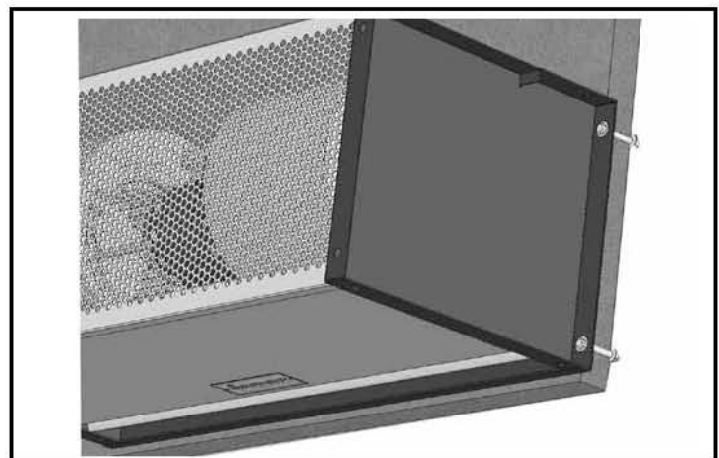

FIGURE 1 - Wall Mounting
B. The IDC12/IDC14 Series end plates are equipped with $\frac{1}{2}$ " holes for wall mounting. The unit may be attached to the wall using, at minimum, $\frac{3}{8}$ " bolts through the holes on the back of the end plate. **See Figure 1.** Or, the unit may be attached using an optional wall mounting bracket or a combination of extension and wall mounting brackets (Available call us) attached to the holes on the top of the end plate and the wall. **See Figure 2.**